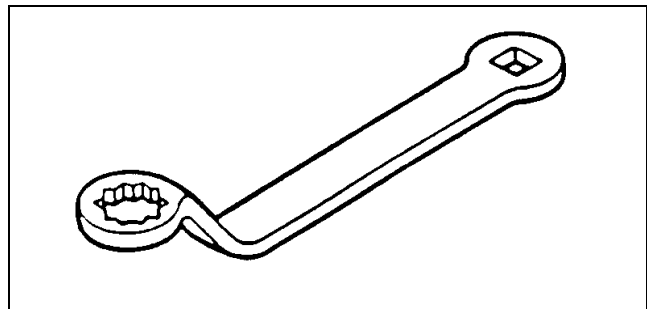

Figure 27
- TOR80117EZ Crankshaft Rotating Wrench (Fig.27)